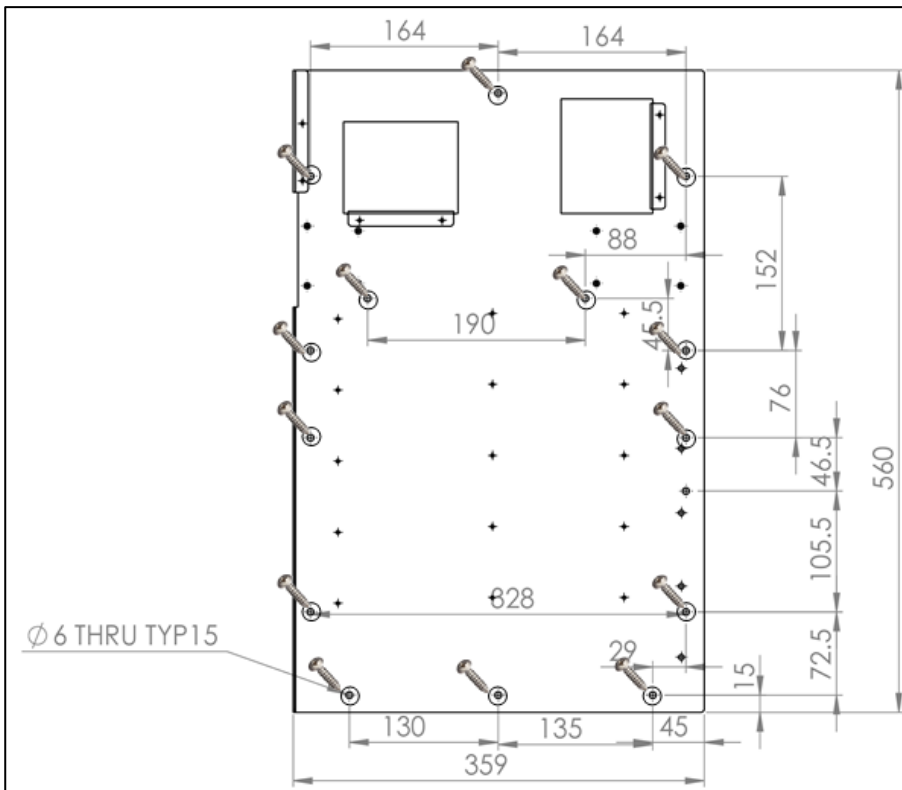

Figure 62: Platinum Pro 50 and Platinum Touch 50 Back Panel Dimensions
- Cut a hole in the door that is 20 millimetres larger than the dimensions shown in Figure 59 and Figure 62.